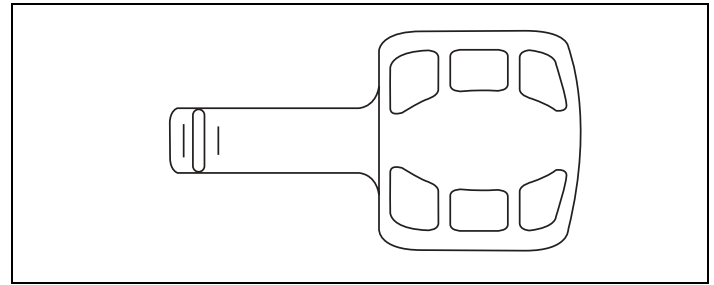

Figure 30. Ignition Key
2. Remove ignition key, if provided (see manufacturer's instructions). See Figures 30 and 32.